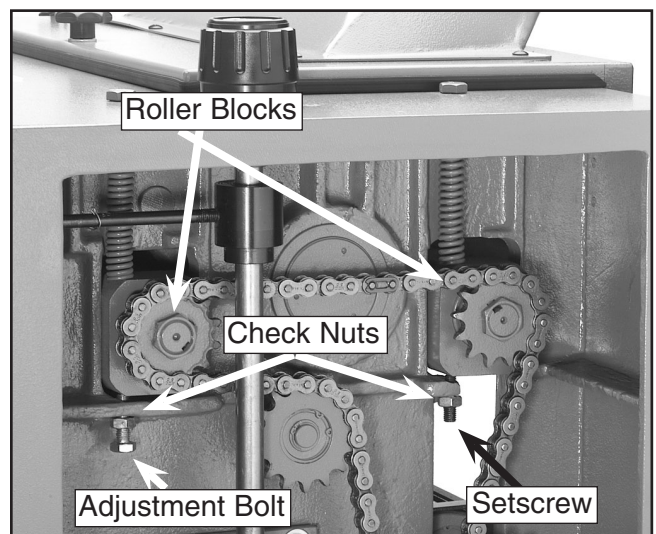

Figure 17. Right side roller controls.
7. Open the right cabinet door. Loosen the check nuts shown in **Figure 17**, and turn the adjustment bolt and setscrew to raise each block the same amount as those from the previous step.